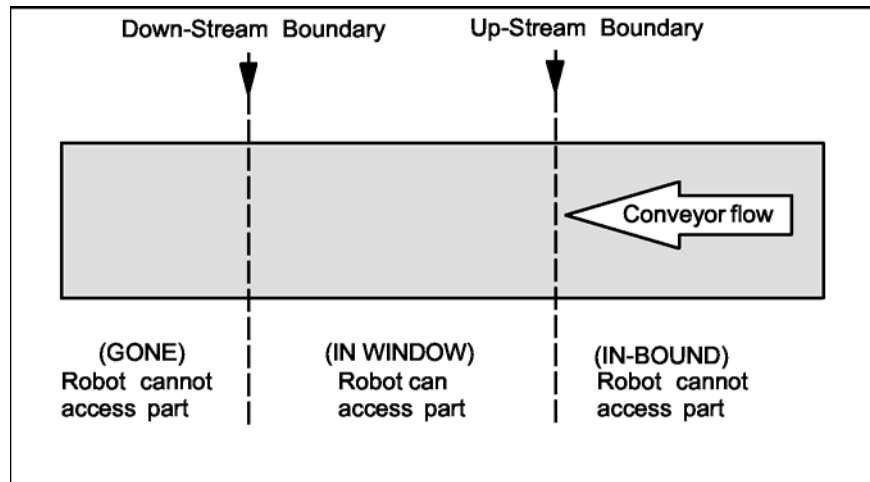

Fig. 3.3(b) Boundary window
- To initialize the currently selected boundary value to 0.0 (regardless of the value of the corresponding up-stream boundary value), press F4, INIT-BND. Refer to Fig. 3.3(b).